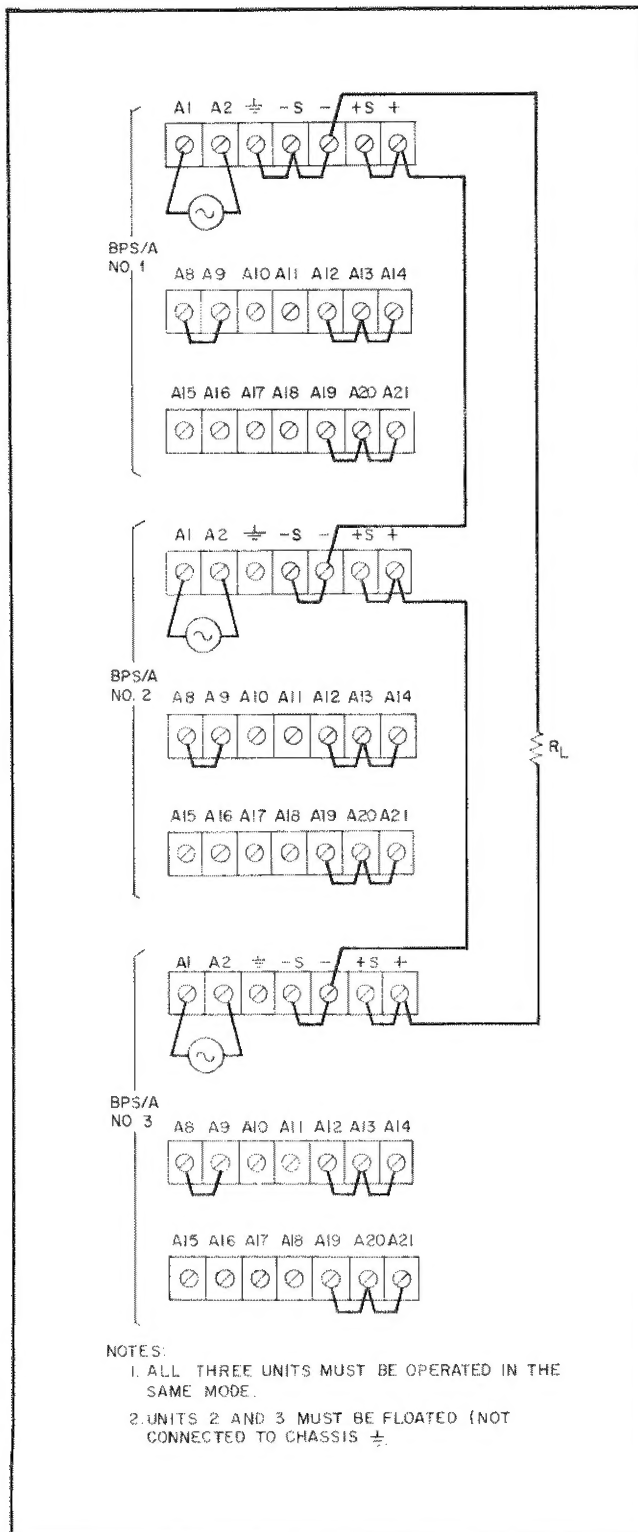

Figure 3-10. Series Connections
**3-55 Series Connections.** Two or more supplies may be connected in series to obtain a higher voltage/gain than is available from a single supply. Figure 3-10 illustrates the series connections for three supplies. Each of the supplies must be adjusted in order to obtain the desired output/voltage gain.